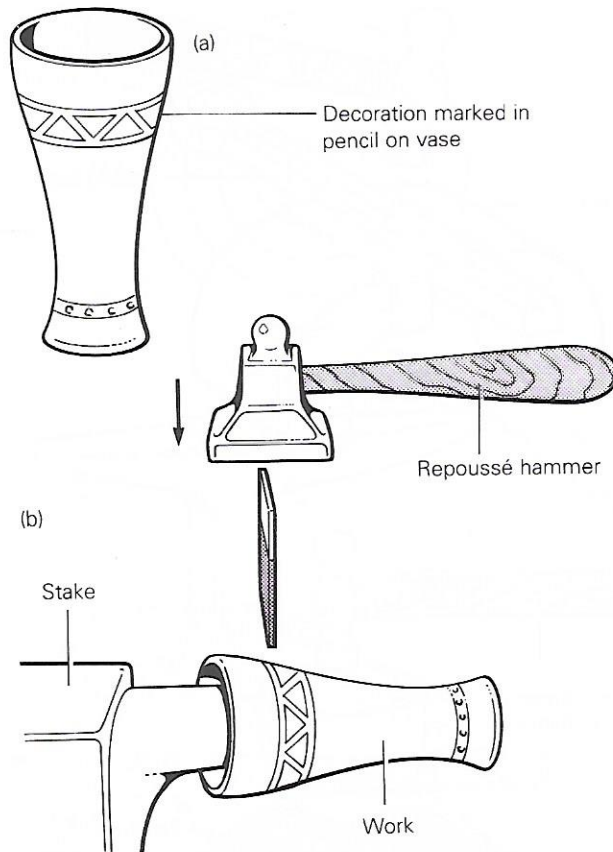

Figure 7.10 Chasing: (a) marking out decorations on vase; (b) chasing.
1. Mark out the pattern or decoration to be chased or punched (Figure 7.10(a)).
3. Use a suitable chasing tool and engrave the design or pattern (Figure 7.10(b)).